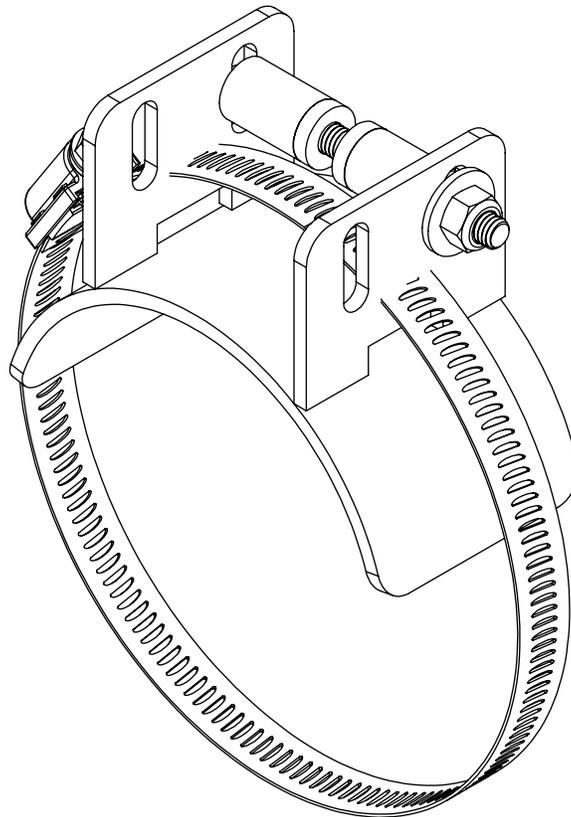

Figure 1
- o Install between two large spacers. (Figure 1)